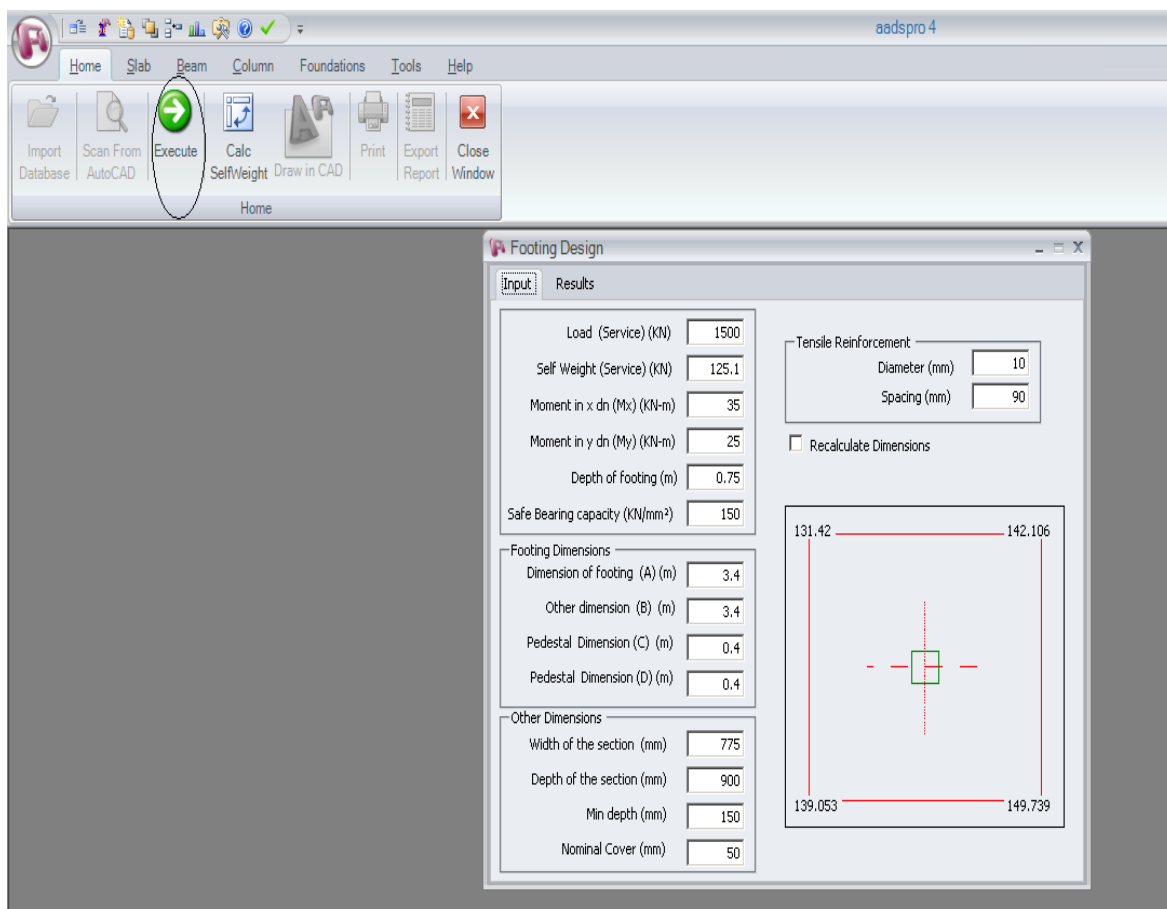

Fig.4.2.5
1. Click on the Execute from tool bar (fig 4.2.5)